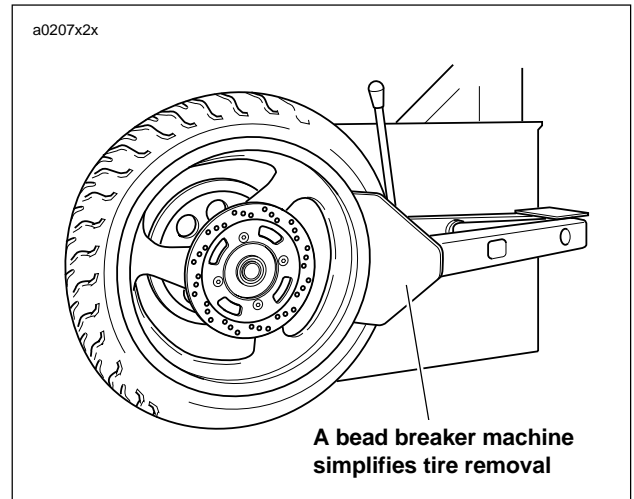

Figure 2-20. Loosening Beads from Rim Flange (Typical)
4. See Figure 2-20. Loosen both tire beads from rim flange.